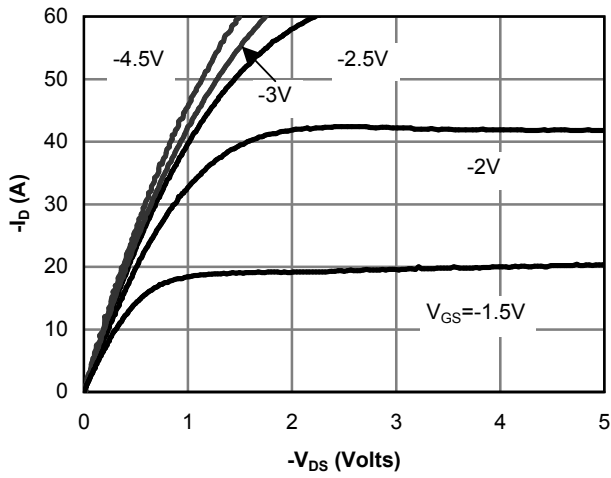

Figure 1: On-Region Characteristics(Note E)
E. The static characteristics in Figures 1 to 6 are obtained using $<300\mu\text{s}$ pulses, duty cycle 0.5% max.